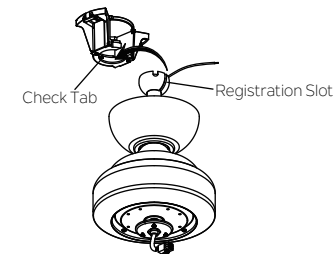

Fig. 9
Step 5. Now lift the motor assembly into position and place the hanger ball into the hanger bracket. Rotate until the "Check Tab" has dropped into the "Registration Slot" and seats firmly. (Fig. 9) The entire motor body should not rotate if this is done correctly.